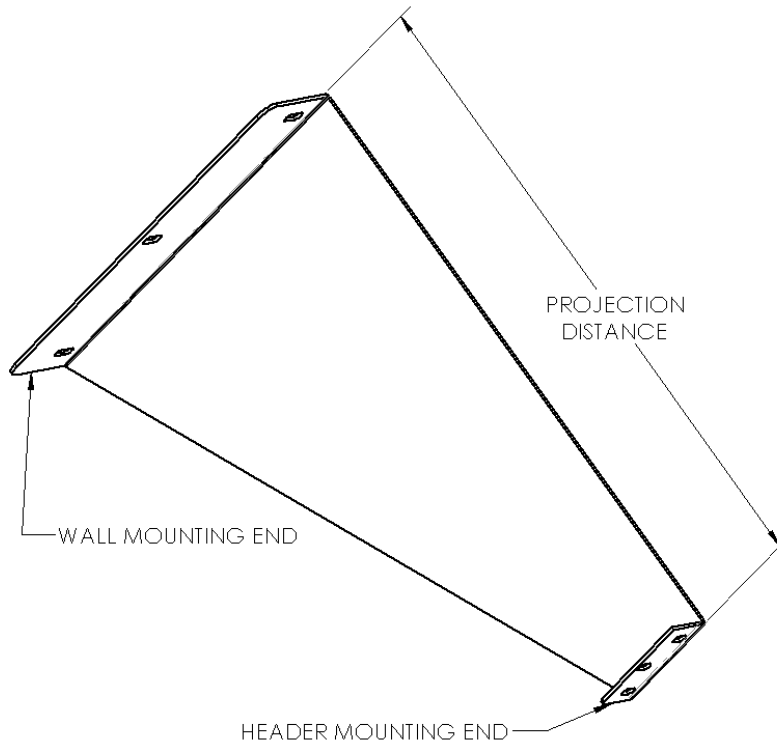
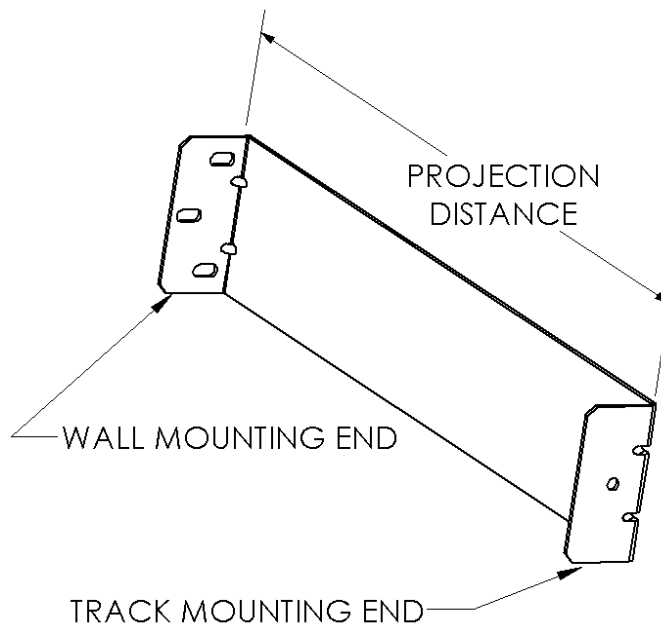

Figure 3 HEADER PROJECTION BRACKET
Figure 4 TRACK BRACKET (8 Req'd)
2. Verify that the projection distance on all Brackets is the same. (Figure 3 HEADER PROJECTION BRACKET & Figure 4 TRACK BRACKET (8 Req'd))